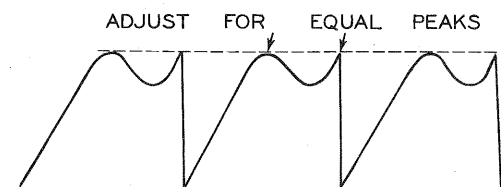

FIG. 13
5. Connect the high side of the vertical amplifier of an oscilloscope through 10MMF to terminal "C" of L26. Connect low side to chassis. Adjust the horizontal waveform slug (B3) for response similar to Fig. 13. While adjusting B4, keep picture in sync by readjusting the horizontal hold control or B3.
6. Adjust B4 for picture slightly wider than necessary to fill picture mask horizontally. Adjust B5 for a picture that is symmetrical from left to right. If necessary, readjust horizontal drive control. Retouch B3 for response similar to Fig. 13. Remove scope.